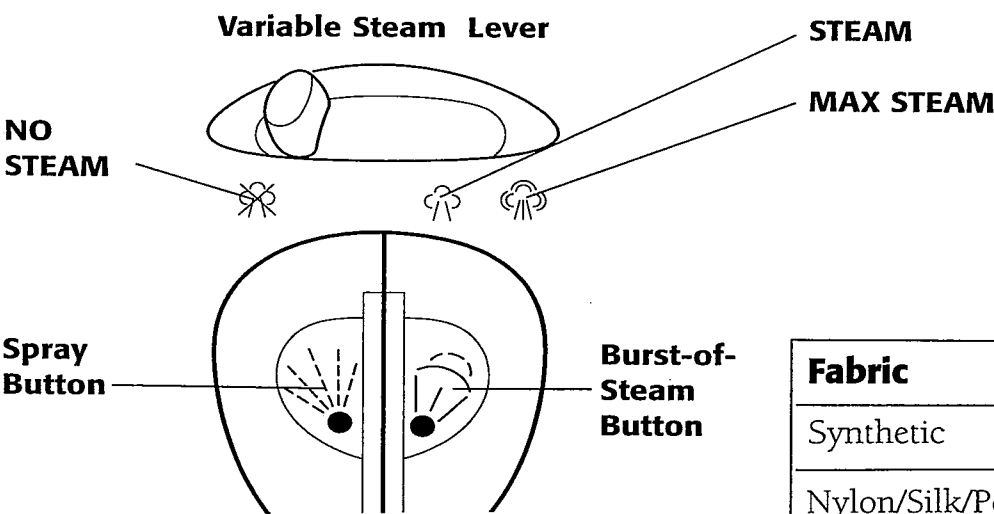

Figure 2
3. Slide the variable steam lever to the NO STEAM position (see Figure 2).